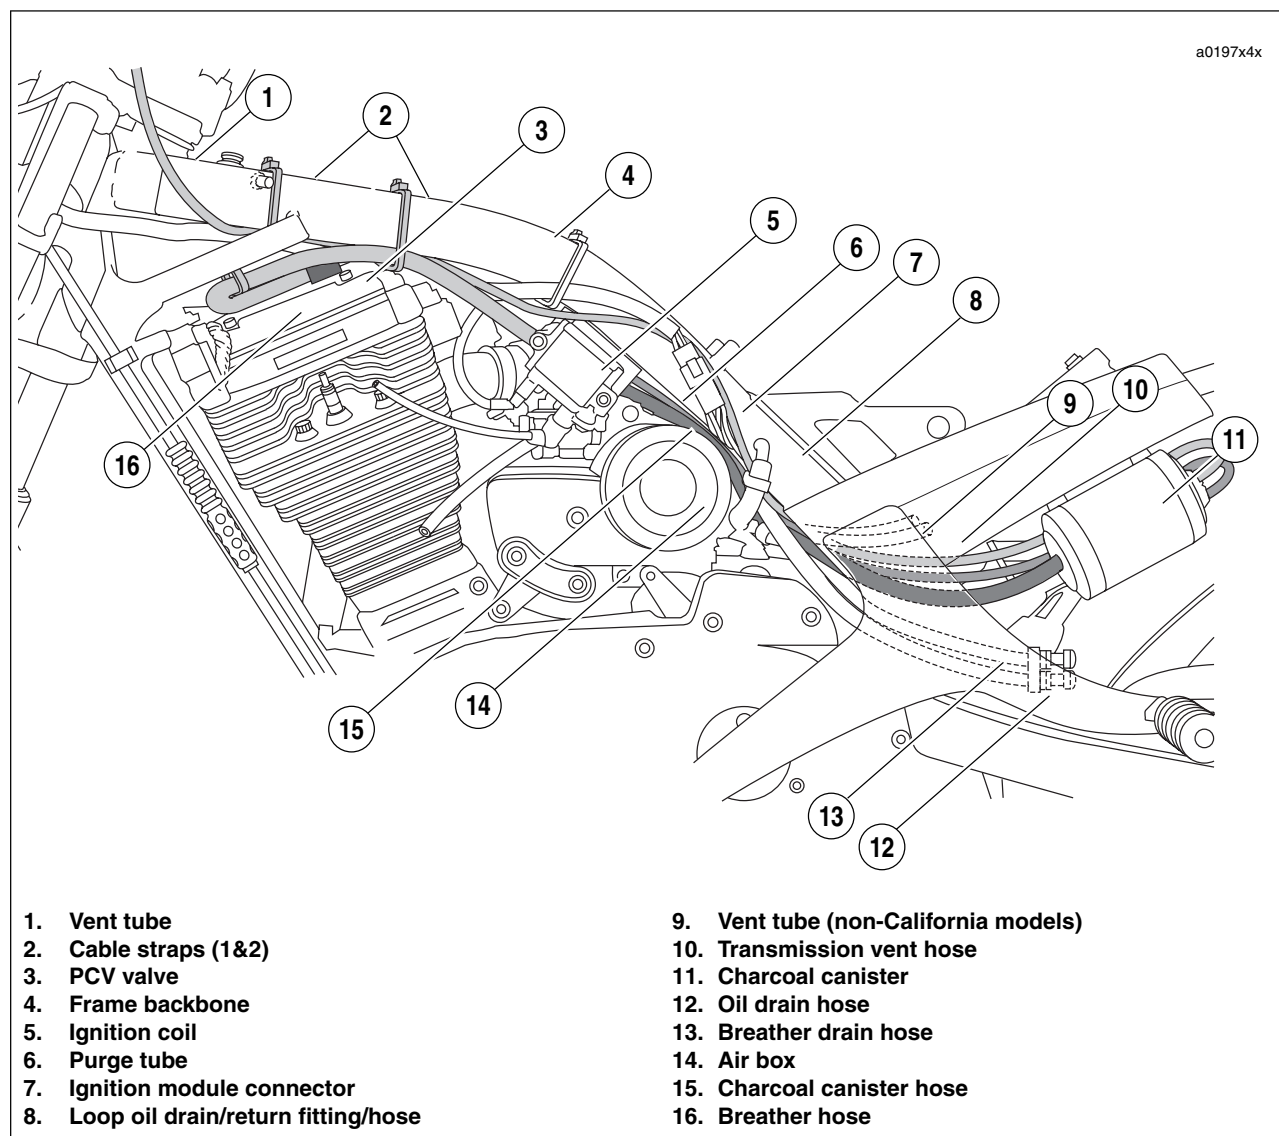

Figure 4-26. Hose Routing (Left Side View)
**Crankcase Breather Hose:** See Figure 4-26. The crankcase breather hose runs forward from the PCV valve at the top of the rocker cover through a cable strap loosely installed in two lateral holes in the front engine mounting bracket (just rear of the steering head). After passing through the cable strap, the hose loops rearward following the bottom left side of the frame backbone, where it is captured in yet another cable strap loosely installed around the middle of the backbone (the second of three equally spaced cable straps moving front to rear). Continuing rearward, the hose passes toward the right side of the vehicle just in front of the ignition coil where it mates with a 3-way connector positioned inboard of the carburetor.
See Figure 4-26. The vent tube, which is cable strapped to the nozzle of the vent tube fitting at the front of the fuel cap flange, runs downward on the left side of the fuel tank and turns rearward passing through a cable strap loosely installed around the front of the frame backbone (the first of three equally spaced cable straps moving front to rear). From this point, the vent tube follows the main harness through a large hole in the front engine mounting bracket (just rear of the two lateral holes described earlier). Continuing rearward, the tube follows the bottom left side of the frame backbone running inboard of the crankcase breather hose. Moving outboard of the breather hose just in front of the ignition coil, the tube follows the ignition module conduit down the left side of the frame backbone and passes through the loop formed by the hose connected to the oil drain/return fitting. The tube enters an opening at the front of the passenger foot peg support where it runs rearward to connect to the upper fitting at the back of the charcoal canister. One cable strap is used to con-